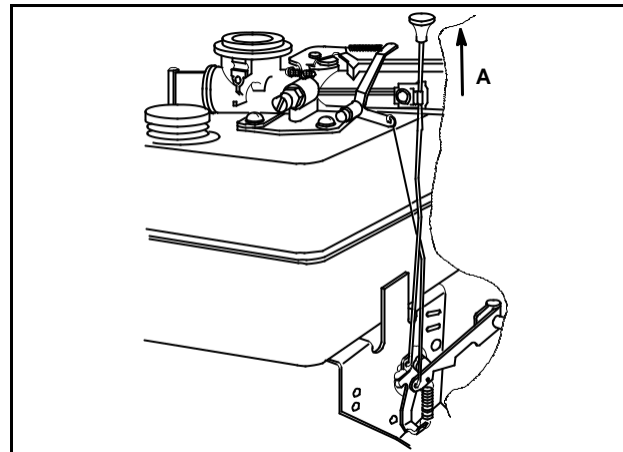

Fig. 54
Manual friction governor control. Pull knob up as indicated (A) to increase speed, Fig. 54.